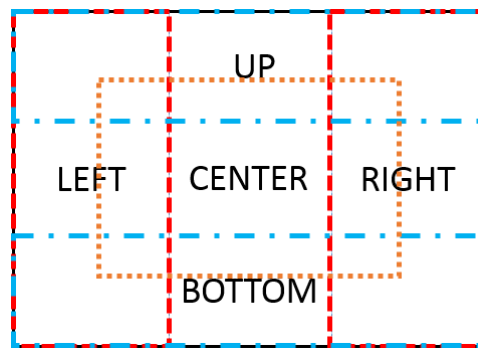

Figure 4-3 Backlit MeasArea area
- When MeasArea is configured as UP, BOTTOM, LEFT, RIGHT or CENTER, it represents manual mode, and the location of the dark area is subject to manual settings. As shown in Figure 4-3, where UP is designated as the area above 1/3 of the screen; BOTTOM is the bottom 1/3 of the area; LEFT is the left 1/3 of the area on the left side of the screen; RIGHT is the 1/3 area on the right side of the screen; CENTER is the area in the center of the screen 3/5. When the brightness of the specified area is lower than the target brightness value of the dark area, increase the exposure to increase the brightness of the specified area; When the brightness of the specified area is higher than the target brightness value of the dark area, it means that the specified area is not a dark area at this time, or the current scene is not a backlight scene, then the increase or decrease of exposure is determined by the global brightness. That is, in this mode, backlight compensation is only turned on when the brightness of the specified area is lower than the target brightness value of the dark area.